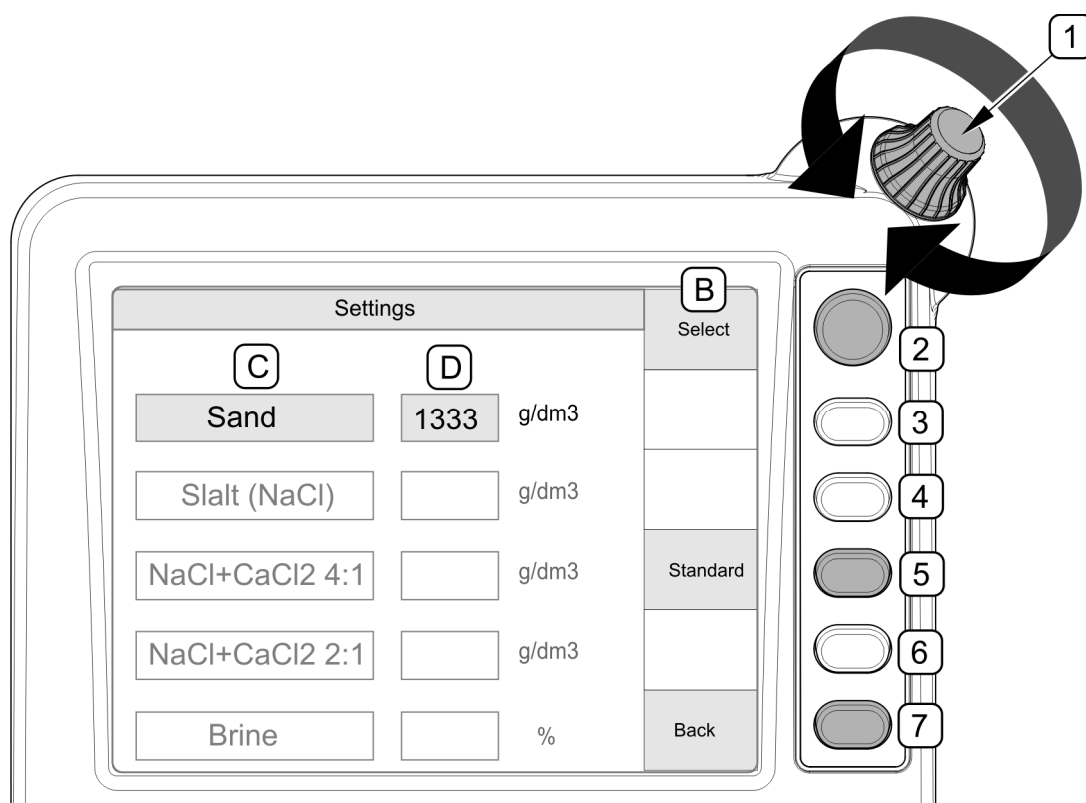

FIG. 4.19 Example of control panel operation
(1) - enclosure; (2) - LCD display ; (3) - parameter change knob; (4) - function push-buttons
Depending on a display menu page selected, (FIG. 4.19) currently assigned functions (B) are displayed next to function push-buttons (2),(3),(4),(5),(6),(7). On each display menu page, different functions are displayed for a given push-button. Empty function field next to push-buttons (3),(4),(6) means that the push-buttons are not active at the moment (FIG. 4.19). Knob (1) is used for moving to another field (C) and for changing values of parameters in field (D).